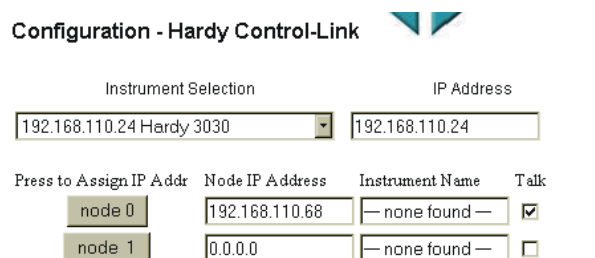

FIG. 105: SELECTED INSTRUMENT WITH IP ADDRESS IN IP ADDRESS FIELD
- Step 7. Repeat Steps 5 and 6 to assign the next instrument to node 1. (See Figs. 105 & 106)